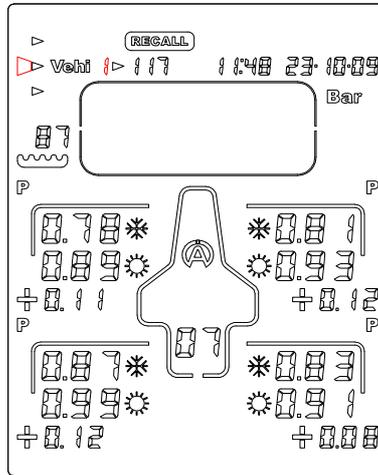

Figure 9
- 2) With the button  or , select the icon « **Vehi** » (*figure 9*)
- 3) With the button  or , select the vehicle wanted (*figure 9*)